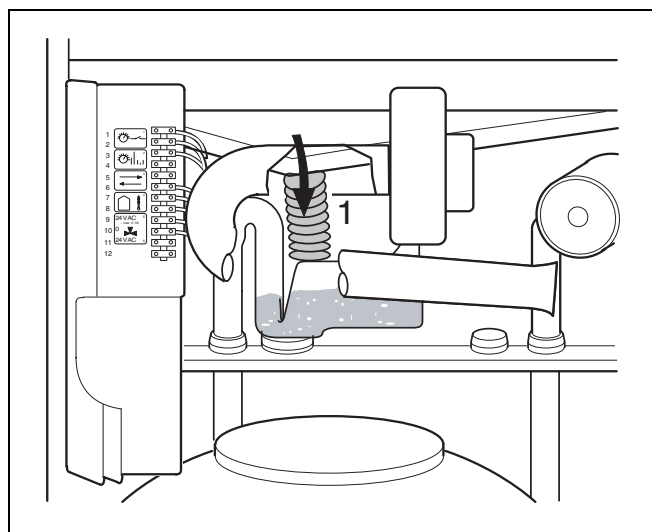

fig. 26 Filling the syphon with water
- Pull the hose from the condensate plate (fig. 26, item 1).